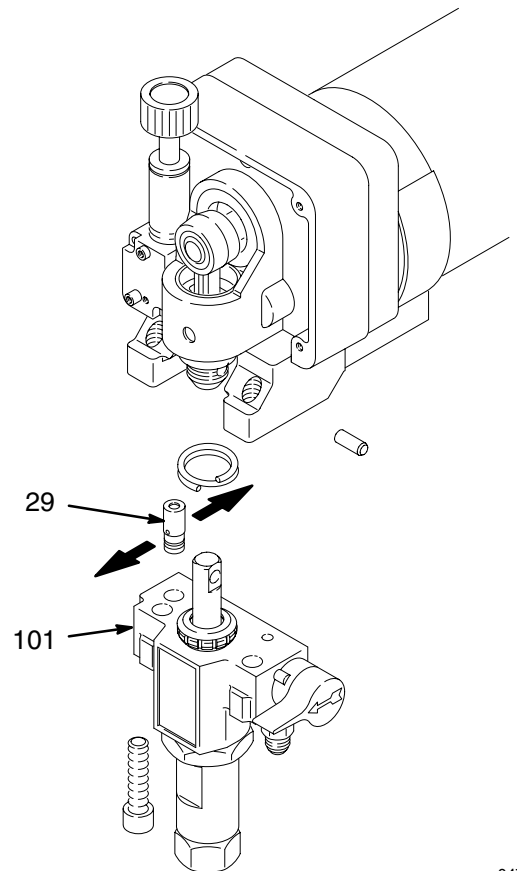

Fig. 30
2. Use a pull–twist motion to remove the transducer (29) from the pump manifold (101).
6. Align the holes in the transducer as shown by the arrows in Fig. 30.